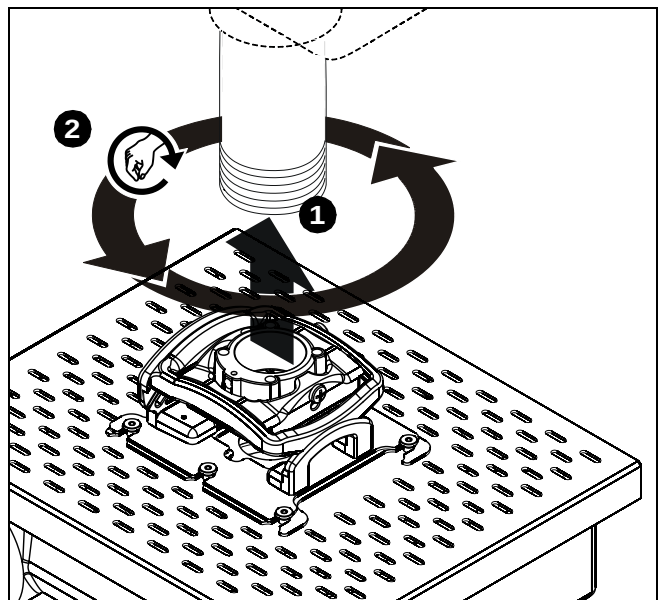

Figure 8
1. Align RPMA1 with end of NTP pipe. (See Figure 8)
2. Thread RPMA1 up onto pipe by turning counterclockwise until hand tight. (See Figure 8)